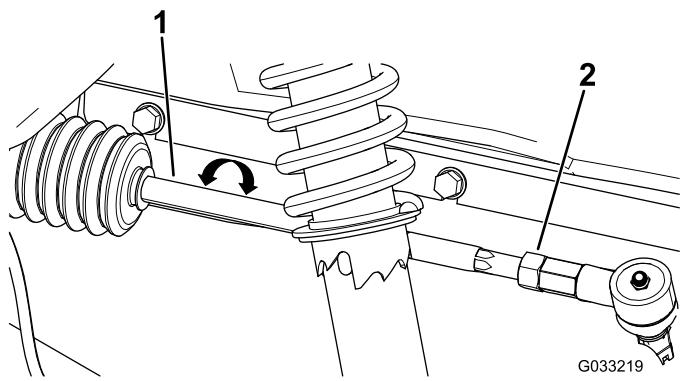

Figure 53
2. If the measurement does not fall within 0 to +/- 3 mm (0 to +/- 1/8 inch), loosen the jam nuts at the outer end of the tie rods (Figure 53).